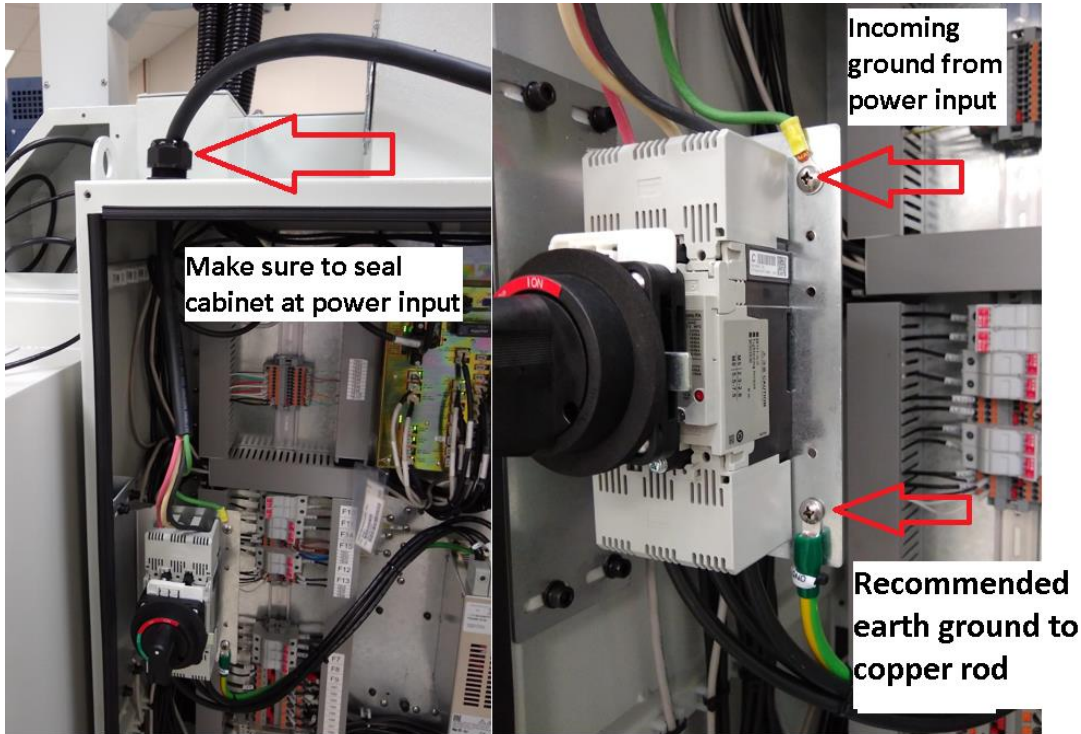
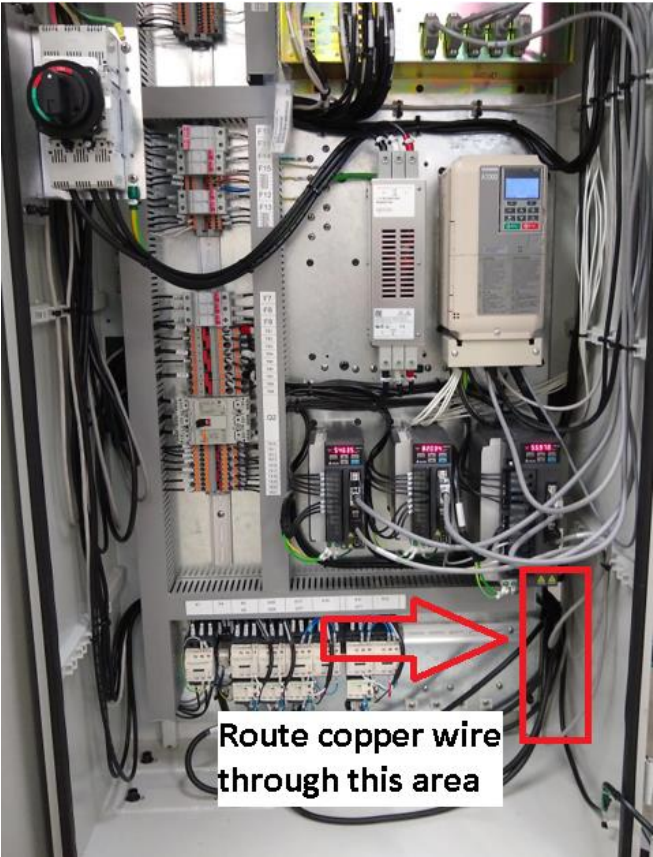

Figure 9 – Connect the Ground Wire
Figure 10 – Exit Location for Ground Wire to Copper Rod
- Machine tool should be earth grounded with a dedicated 8-foot long copper rod. The 6-gage ground wire should run from the copper rod to grounding location in the electrical cabinet. See figures 9 and 10.
The 3 phase 208 voltage (200 – 240 V is acceptable) is connected to L1, L2 and L3 at the main power switch inside the electrical box. Connect the ground wire as shown in the figure 9.
It is strongly recommended that the machine be earth grounded. A dedicated copper rod 8 feet or so in length should be driven into the ground near the TMC. A ground wire should then be run from the location shown in figure 9. The copper wire should exit the electrical cabinet in the lower right-hand corner as shown in figure 10. Make sure the foam where the copper wire goes through seals the cabinet from external debris. The wire should be 6 gage in size.